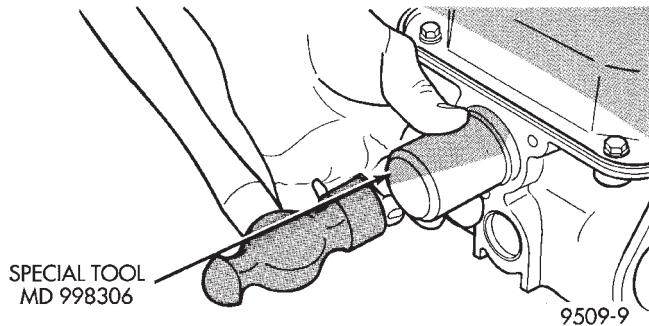

Fig. 27 Installing Camshaft Seal
(1) Install camshaft seal flush with cylinder head using Special Tool MD 998306 (Fig. 27).